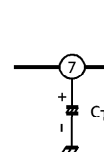

Fig.3 Smoothing function
The Pin⑦ is the smoothing terminal for reducing the pop noise produced at F/R switchover by using the external capacitor CT. (Fig.3)